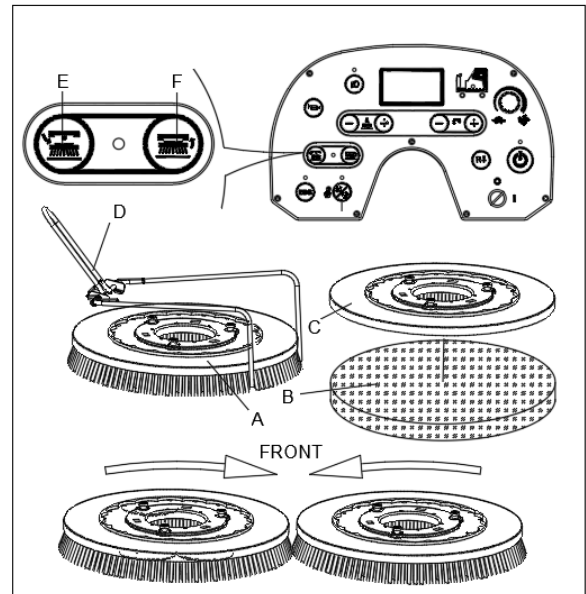

Figure 8
Install either the brush (A, Figure 8) or pad-holder (B and C, Figure 8) according to the type of floor to be cleaned.
2. Place brushes (A, Figure 8) or pad-holders (B, Figure 8) under the deck. Use the brush installation stop (D, Figure 8) to help find the proper brush/pad holder position.
3. Install the brush/pad-holder by pressing the Brush/pad-holder click on button (F, Figure 8), the brush/pad-holder will be automatically installed. The rotation direction is shown (Figure 8). The LED indicator light will flash.
1. Insert the Ignition key (53, Figure 3) and turn it to "I". Ensure the brush/pad-holder is in the raised (UP) position. Remove the brush/pad-holder by pressing the brush/pad-holder release button (E, Figure 8), the brush/pad-holder will be automatically released. The LED indicator light will be steady on.